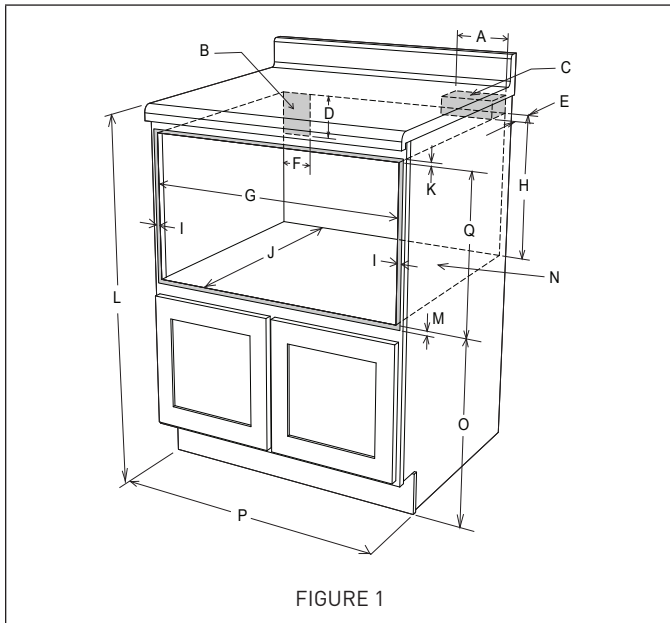

FIGURE 1
- For SAFETY CONSIDERATIONS do not install drawer in any combustible cabinetry, which is not in accord with the stated clearances and dimensions on page 4, See figure 1.
- Dimensions that are shown in figure 1 must be used. Given dimensions provide minimum clearance. Locate electrical outlet in the shaded area in the upper left-hand corner of the cutout. See figure 4.
Figures 1 and 2 contain many Drawer Microwave measurements for reference when planning the drawer's location.